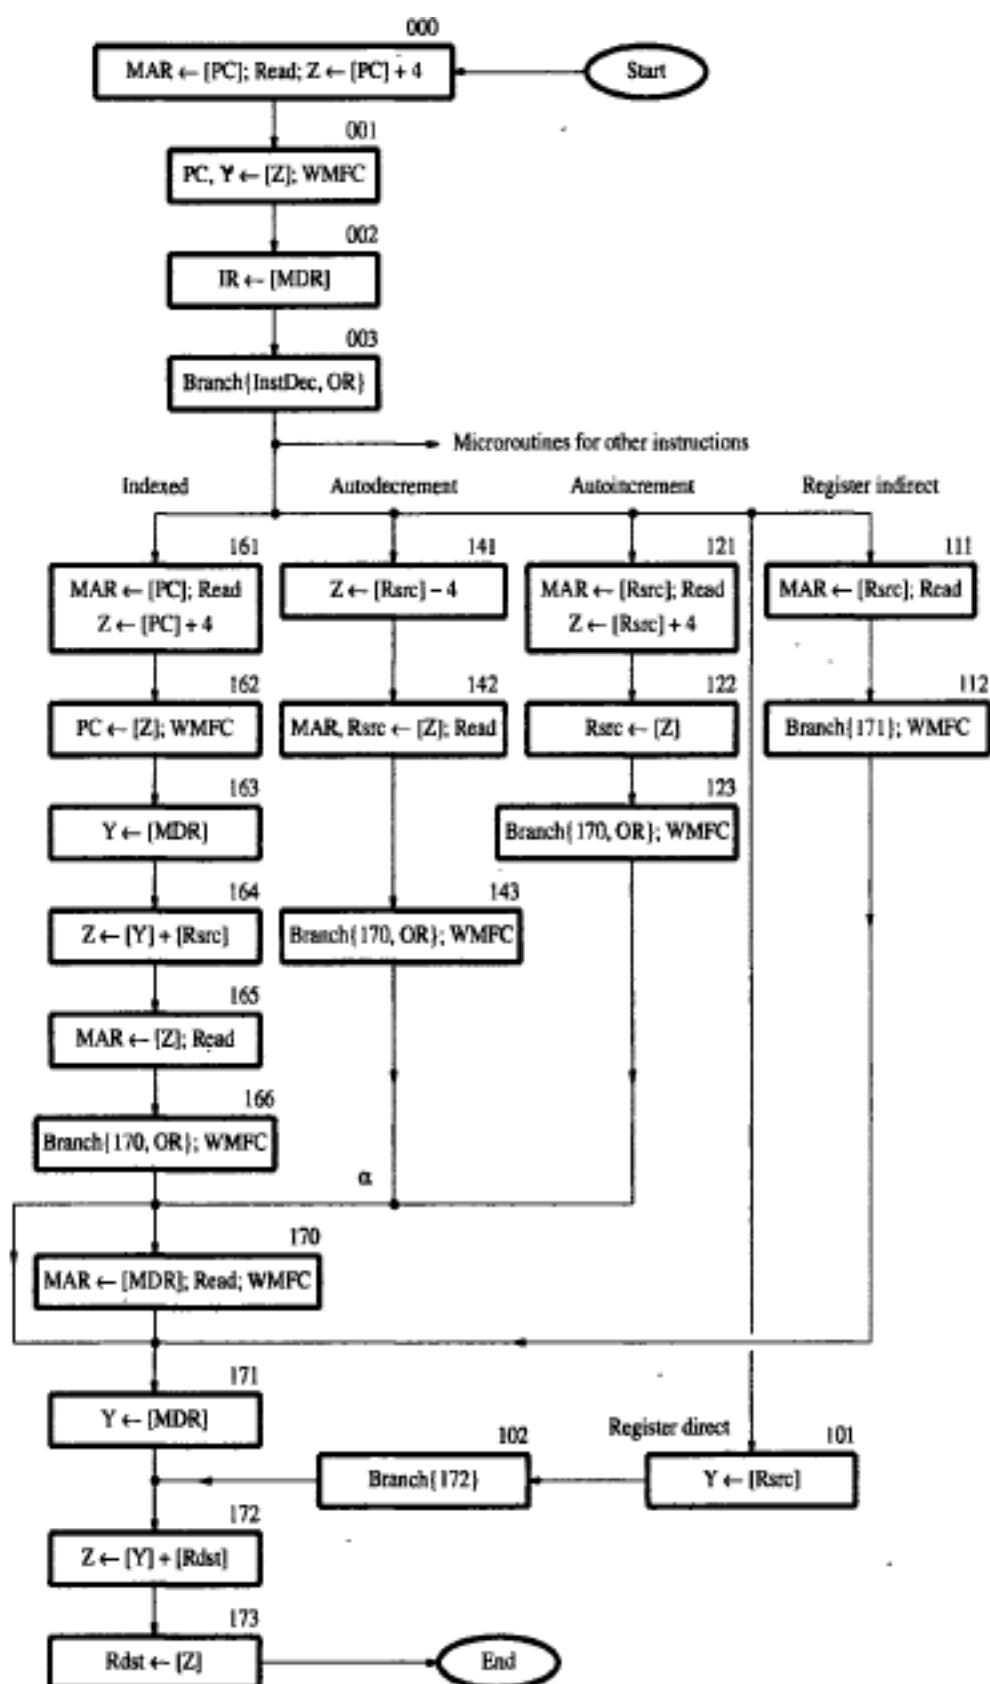

Figure 7.20 Flowchart of a microprogram for the Add src, Rdst instruction.
- Let source-operand can be specified in following addressing modes (Figure 7.20):